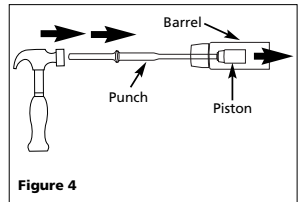

Figure 4
3. If piston is jammed, disassemble barrel from housing. Use punch to push piston through barrel (See Figure 4).